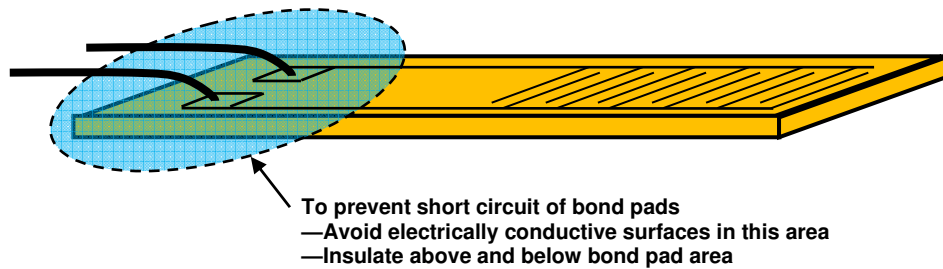

Figure 12-2
- Wrap bond pads with Kapton® or polyimide tape, as shown in Figure 12-2